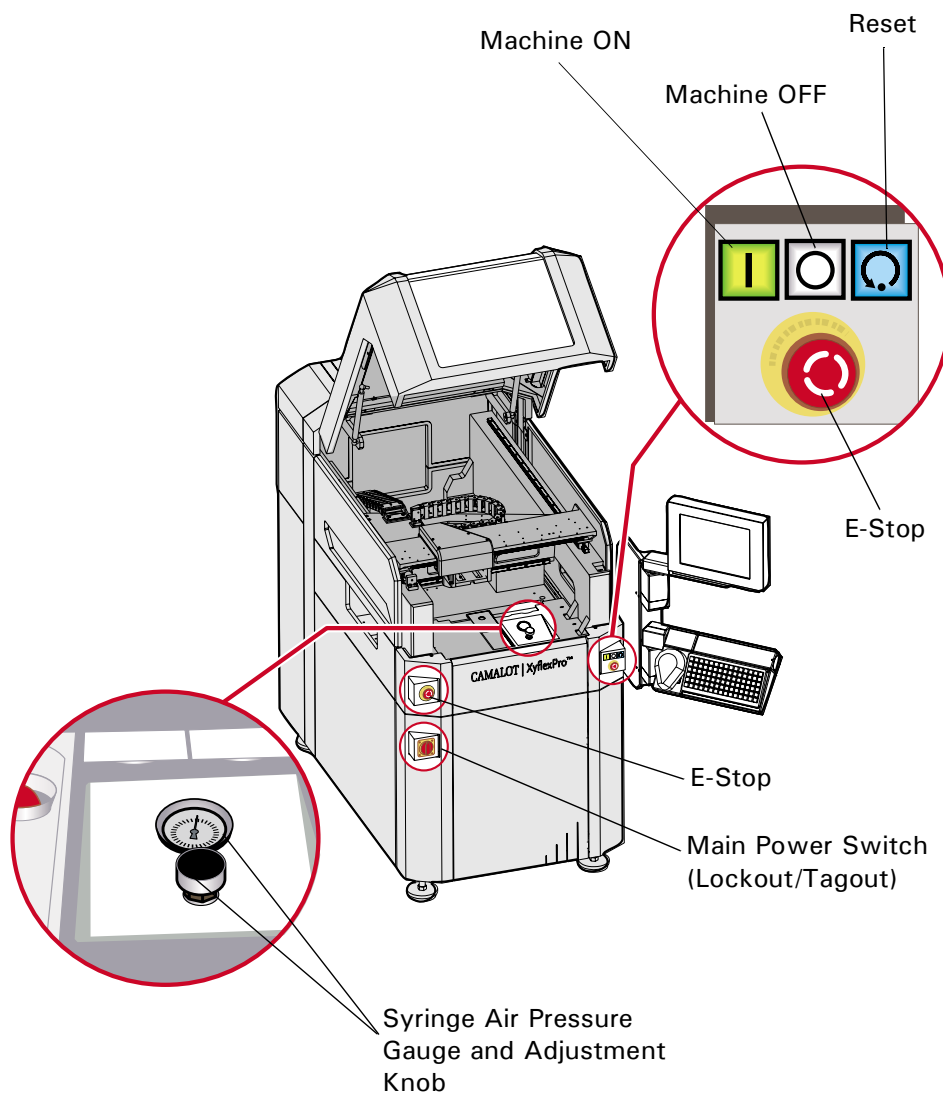

Figure 4-11
5. Press the white **MACHINE OFF** push button on the right front panel. See Figure 4-11.
2. Press the **blue Reset** button on the right front system panel. See Figure 4-11.